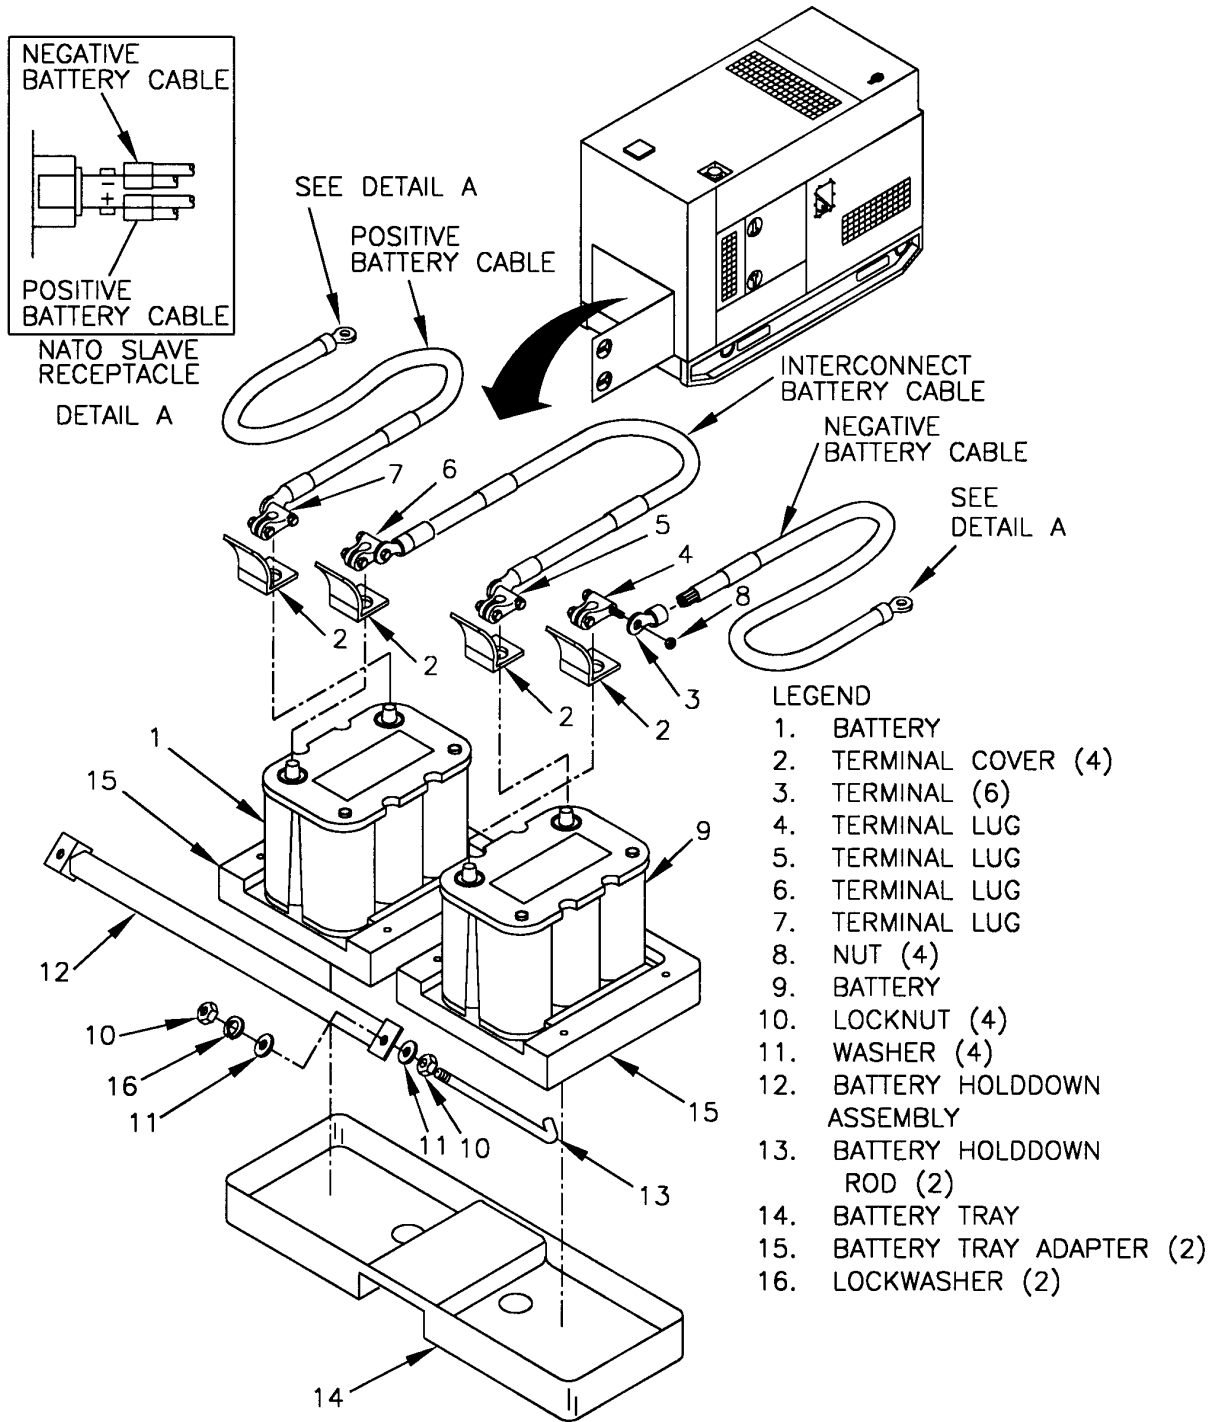

FIGURE 4-3. BATTERIES AND CABLES
- (1) Shut down generator set, paragraph 2.11.2.
- (2) Open BATTERY ACCESS door and right side engine compartment access doors .
- (3) Inspect battery and SLAVE RECEPTACLE cable assemblies for security, cracked insulation, broken, burned, or corroded terminals, missing parts, and other damage. Refer to Figures 4-3 and 4-4.
- (4) Close BATTERY ACCESS and engine compartment access doors.
- (3) Disconnect negative battery cable from battery (1, Figure 4-3).
- (4) Tag and remove applicable cable assembly as shown in Figure 4-3 or 4-4.
- (1) Remove terminal covers (2, Figure 4-3) from battery posts as required.
- (2) Clean terminals (3, Figure 4-3 or 4-4), battery posts, and terminal lugs (4, 5, 6, and 7, Figure 4-3).
- (3) Install terminal covers (2), if removed.
- (1) Remove nuts (8, Figure 4-3) and terminal lugs (4, 5, 6, or 7) from terminals (3) as required.
- (2) Cut heat shrink tubing, and remove broken or damaged terminal (3, Figure 4-3 or 4-4) from cable assembly.
- (3) Slide new heat shrink tubing over cable end.
- (4) Install terminal (3) on cable end as described in Appendix G.
- (5) Position heat shrink tubing over terminal (3) and cable end, and shrink tubing with heat gun.
- (6) Install terminal lugs (4, 5, 6, or 7, Figure 4-3) and nuts (8).
- (1) Install applicable cable assembly as shown in Figure 4-3.
- (2) Connect negative battery cable to battery (1, Figure 4-3).
- (3) Close BATTERY ACCESS and engine compartment access doors.
- (3) Disconnect negative battery cable terminal lug (4, figure 4-3) from battery (9).
- (4) Disconnect interconnect battery cable terminal lug (6) first, then lug (5) from batteries (1 and 9).
- (5) Disconnect positive cable battery lug (7) from battery (1).
- (6) Remove nuts (10), washers (11), battery holddown assembly (12), and battery holddown rods (13) securing batteries (1 and 9) to battery tray (14).
- (1) Remove batteries, step b.
- (2) Inspect batteries (1 and 9, Figure 4-3) for cracked cases; broken, burned, or corroded posts; missing parts; and other damage.
- (3) Install batteries, step e.
- (1) Remove terminal covers (2, Figure 4-3) from batteries (1 and 9).
- (2) Clean terminal lugs (4, 5, 6, and 7) and battery posts.
- (3) Install terminal covers (2) on batteries (1 and 9).
- (1) Slide battery horizontally into battery adapter (15) with negative battery post first, until adapter lock snaps into the lock position.
- (2) Position batteries (1 and 9, Figure 4-3) in battery tray (14) with positive post toward the generator set. Ensure batteries are serviced and fully charged.